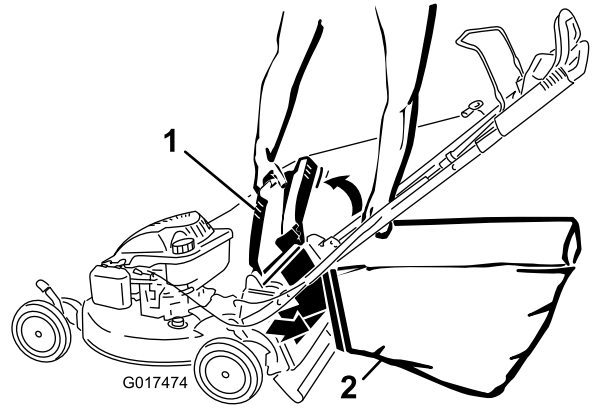

Figure 26
4. Hang the upper front edge of the bag on the notches (Figure 26).